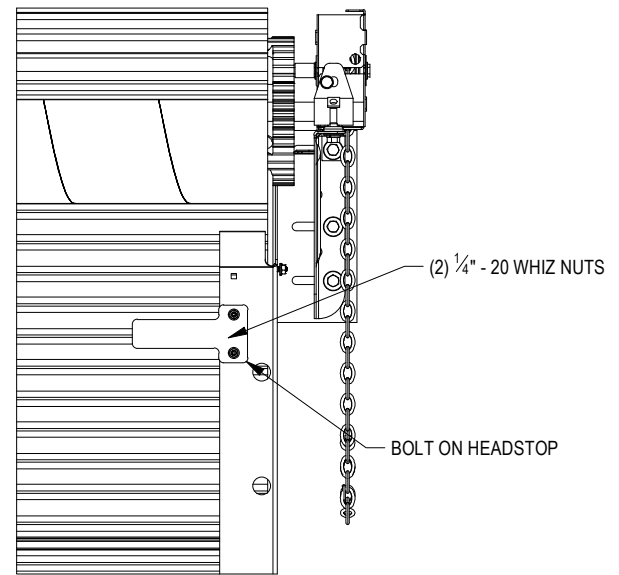

FIGURE 22:
- Secure each headstop to guide with those loosened Whiz Nuts. **See Figure 22.**